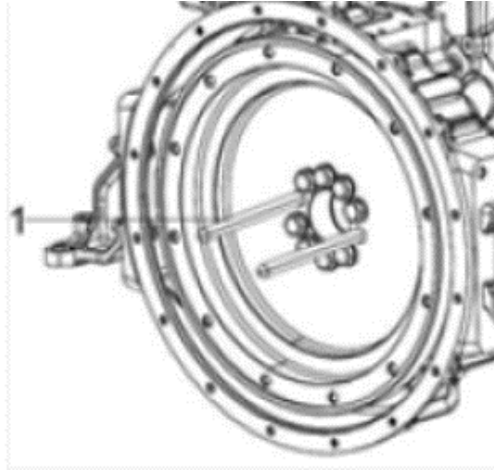

Figure 84.
3. Fit the flywheel guides (Figure 84, Item 1) into the opposed flywheel bolt holes.